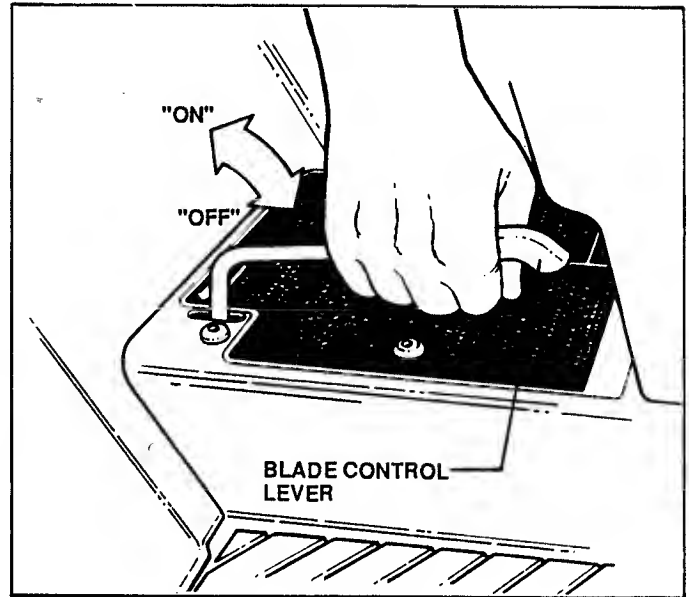
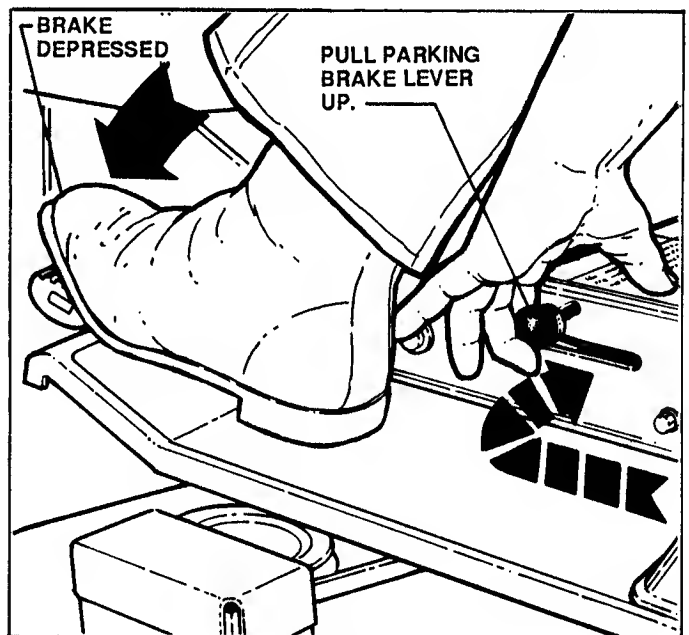

FIGURE 4
FIGURE 7
MOWER BLADE: *STOP MOWER BLADE* by pushing BLADE CONTROL lever downward to "OFF". See Figure 4.
1. PUSH BLADE CONTROL LEVER downward to "OFF" position (Fig. 4) and fully depress the CLUTCH/BRAKE pedal (Fig. 7), so that Safety Interlock System will allow engine to start.
Depress CLUTCH/BRAKE PEDAL. Pull PARKING BRAKE LEVER "UP" while releasing pedal. See Figure 7.